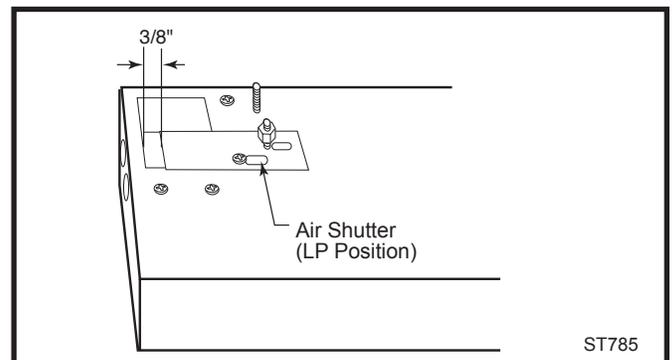
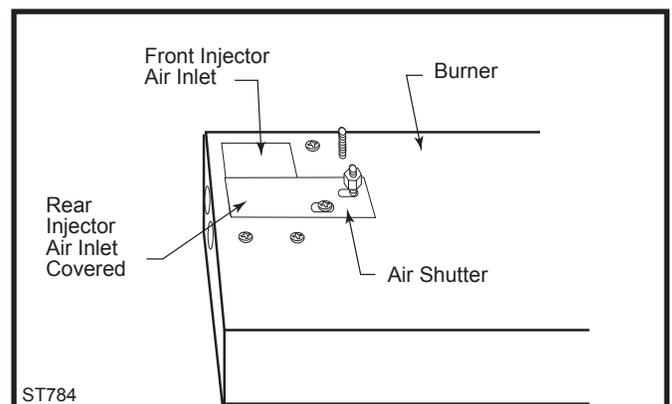

Fig. 34 LP air shutter settings.
Fig. 35 Natural gas air shutter setting.
1. Remove stove front. Lift stove front up and then swing bottom out and away to disengage from the stove body. (Page 19, Fig. 35)
8. Remove injector orifices from left burner leg using 1/2" wrench. (Fig. 34)
16. Adjust air shutter on the burner. The air shutter is located on the bottom of the burner on the left. (Fig. 34) Loosen the two nuts holding the shutter in place. On natural gas units, the shutter is shipped fully closed. To convert to LP, reset the shutter as specified in Table 2. (Fig. 35) On propane unit the shutter
is set at 1/8" or 3/8" opening depending on rating plate serial number. To convert to natural gas, the shutter should set to fully closed. Refasten the two nuts. (Fig. 35)